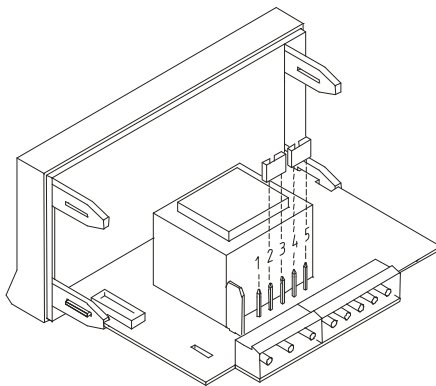

Fig. 9.2. Jumper settings for 230 V or 48 V AC
**115/230 V AC:** The instruments with 115/230 V AC power are set up at fabrication for 230 V AC (**USA market 115 V AC**), see figure 9.2. To change power supply configuration to 115 V AC, make the jumpers indicated in figure 9.3 and table 1. The wiring label should be modified to reflect the new configuration.
**24/48 V AC:** The instruments with 24/48 V AC power are set up at fabrication for 24 V AC, see figure 9.2. To change power supply configuration to 48 V AC, make the jumpers indicated in figure 9.3 and table 1. The wiring label should be modified to reflect the new configuration.